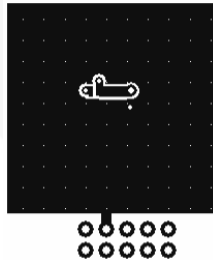
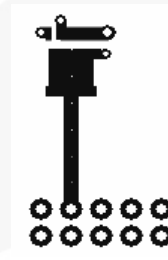

Figure 4. 1 Square Inch of 2-ounce copper
Figure 5. Minimum Pads of 2-ounce Copper
$T_A = 25^\circ\text{C}$ (2) (see Figure 4)	2.3
- The device power dissipation and thermal resistance ( $R_\theta$ ) are characterized with device mounted on the following FR4 printed circuit boards, as shown in Figure 4 and Figure 5